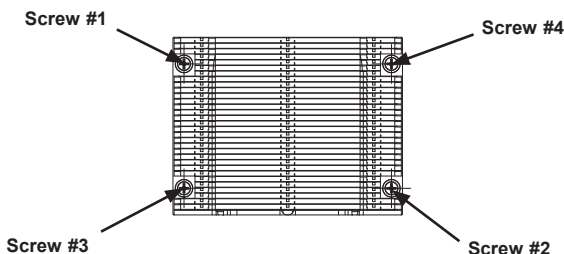

Figure 5-2. Heatsink
1. Insert each memory module vertically into its slot, paying attention to the notch along the bottom of the module to prevent inserting the module incorrectly (see Figure 5-2).